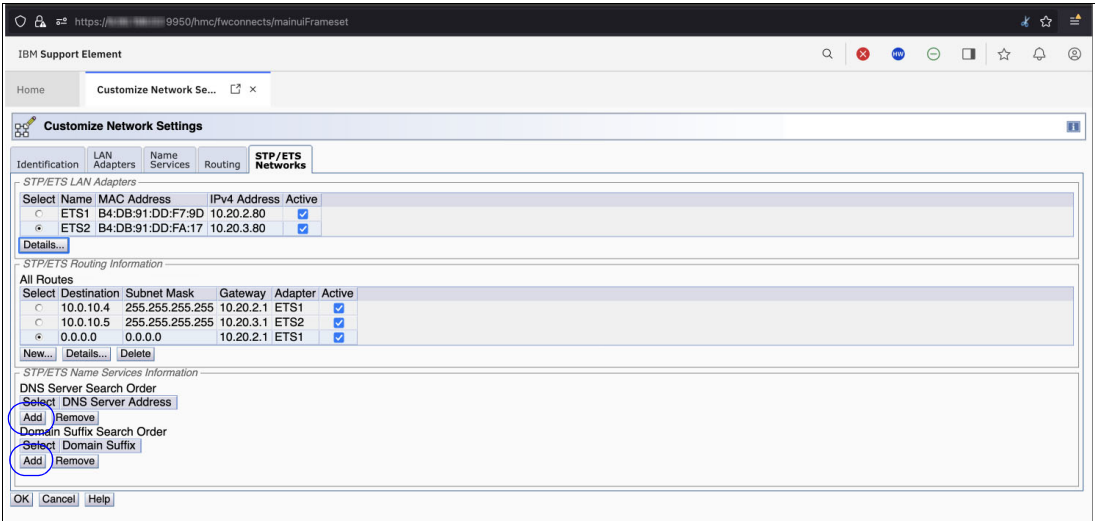

Figure 4-6 Adding DNS and Domain Name suffix information
- 6. Routing information is shown in Figure 4-6.